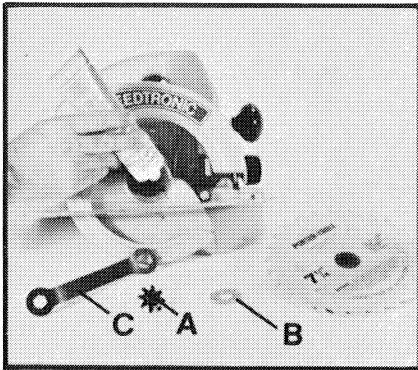

Fig. 2
2. On a new saw, remove the blade screw (A) and washer (B) Fig. 2.
3. Apply a thin film of grease to the inboard flange, see Fig. 2, and to the inner face of the blade retaining washer (B).